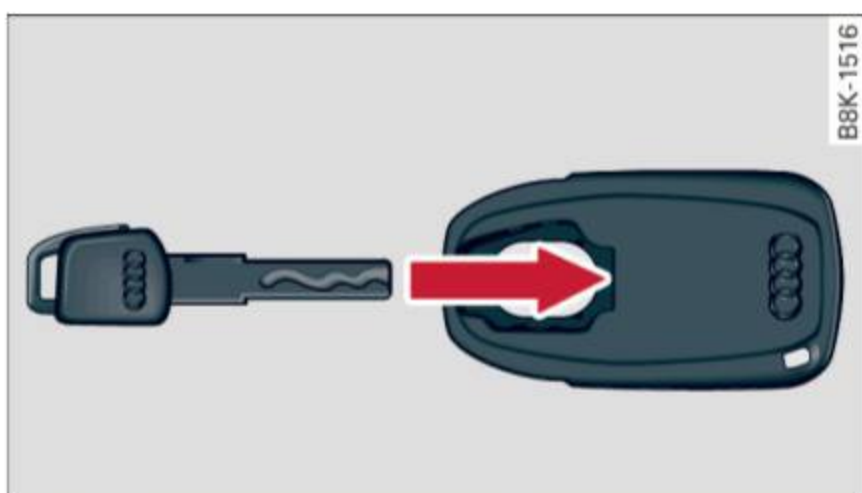

Fig. 78 Insert emergency key into the adapter
- ▶ Push the emergency key ⇒ *fig. 78* fully into the adapter. Make sure that the Audi rings are facing up.